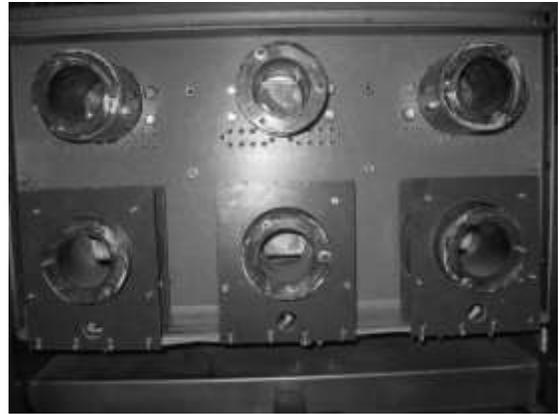

Figure 24: Installing the CTs on the LA-4000 Breaker.
3. Run the wires under the new CTs and secure with wire ties to the holes in the front of the CT assembly as shown in Figure 24.